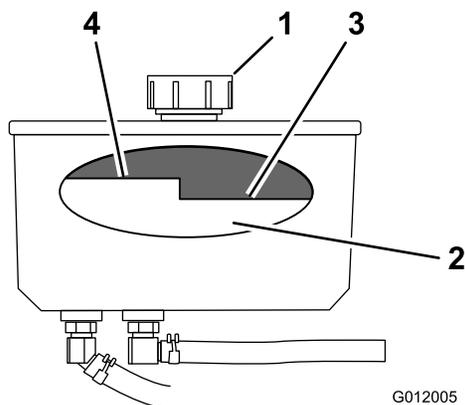

Figure 72
4. Clean the area around the cap and the filler neck of the hydraulic tank (Figure 72).
5. Remove the cap from the filler neck (Figure 72).
Note: The fluid level should be below the hot level of the baffle when the fluid is warm (Figure 72).